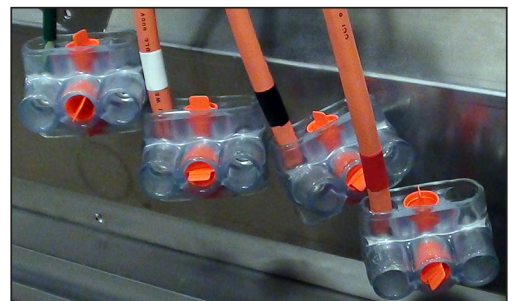

Figure 6: Power Cables
6. Connect the power ground wire to the appropriate tap (green wire), as shown in **Figure 6**.